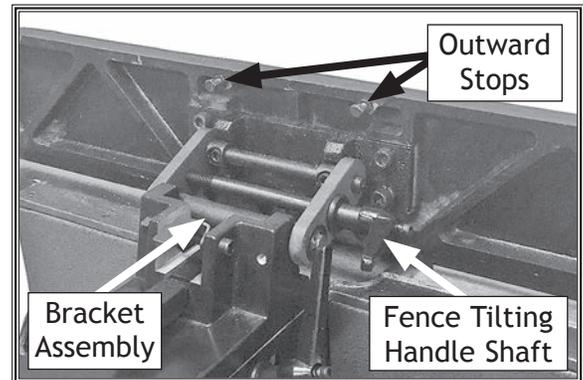

Figure 14. Fence tilting handle installed.
- Install the fence tilting handle by screwing the handle shaft into the bracket assembly, as shown in **Figure 14**.